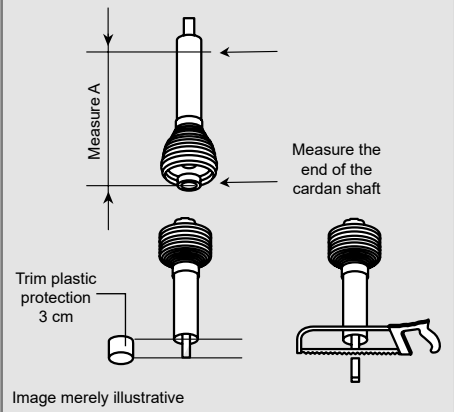

Figure 5
- ✓ The measure found between the power take-off shafts should be divided by 1.3. The value of this division will indicate the measure A, mark the cardan shaft with the measure A and cut the excess, as indicated in the image (Figure 5).
- ✓ After completing the full cut, mark the plastic protection of the male and female cardan and remove 3 centimeters from the plastic protection only, cutting with a saw, leaving the cardan shaft with the tip exposed, as shown in the image (Figure 5).